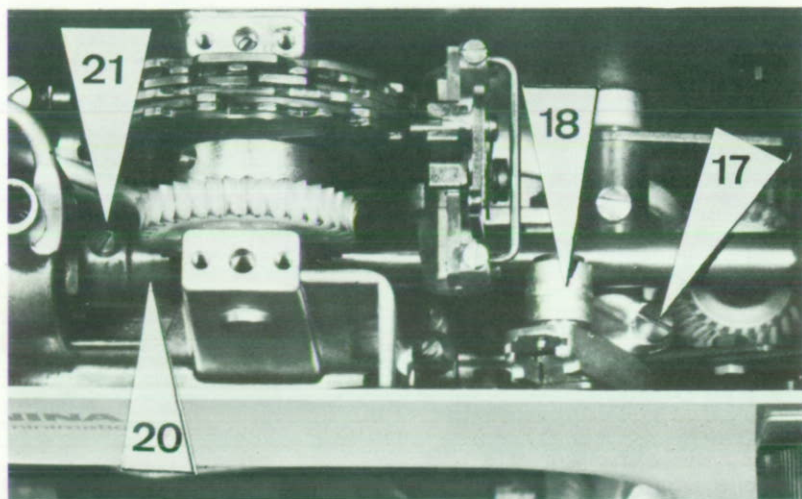

Fig. 11
Loosen the two screws on worm wheel (20). Then, using the screwdriver, secure the worm wheel (20) which is loose on the spindle while pressing the setting ring (21) and turning the handwheel until the correct setting is found (Fig. 11).